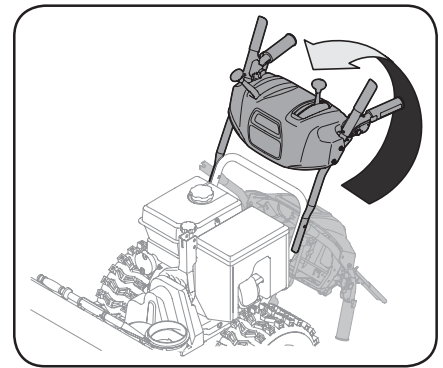

Figure 2-5
6. Pivot handle upward and align the tab in the lower area of the upper handle with the hole in the lower handle. See Figure 2-5. Follow the instructions applicable to your handle hardware set-up in Steps 7 and 8 to secure the upper and lower handles. Remove and discard any rubber bands, if present. They are for packaging purposes only.